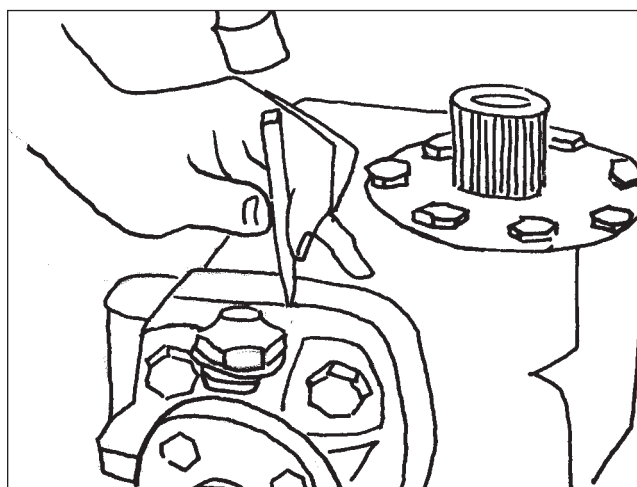

Figure 87
4. Using a center punch, make two reference marks on the bearing cap and corresponding marks on the housing. A single reference mark should be made on the cylinder head and a corresponding mark on the housing, so the gear can be reassembled in the same configuration (Figure 87).